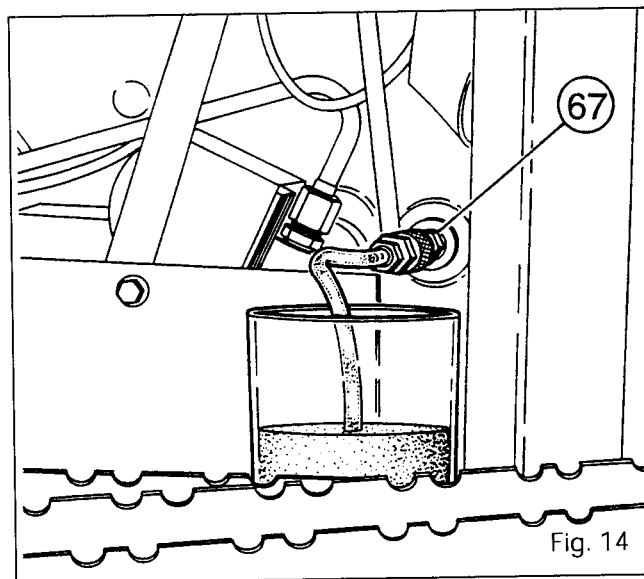

Fig. 14
### Spring-loaded clutch (Fig 14)
1. Use the same method as in the previous version and union No. 3582045M1 fitted with a hose on the bleed connector (67) as shown in Figure 14.